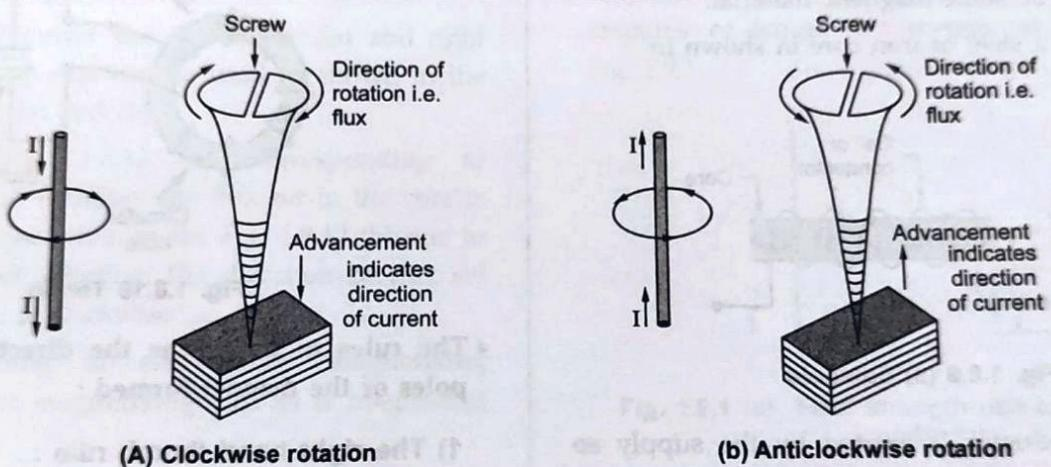

Fig. 1.8.7 Corkscrew rule
- This is shown in the Fig. 1.8.7.